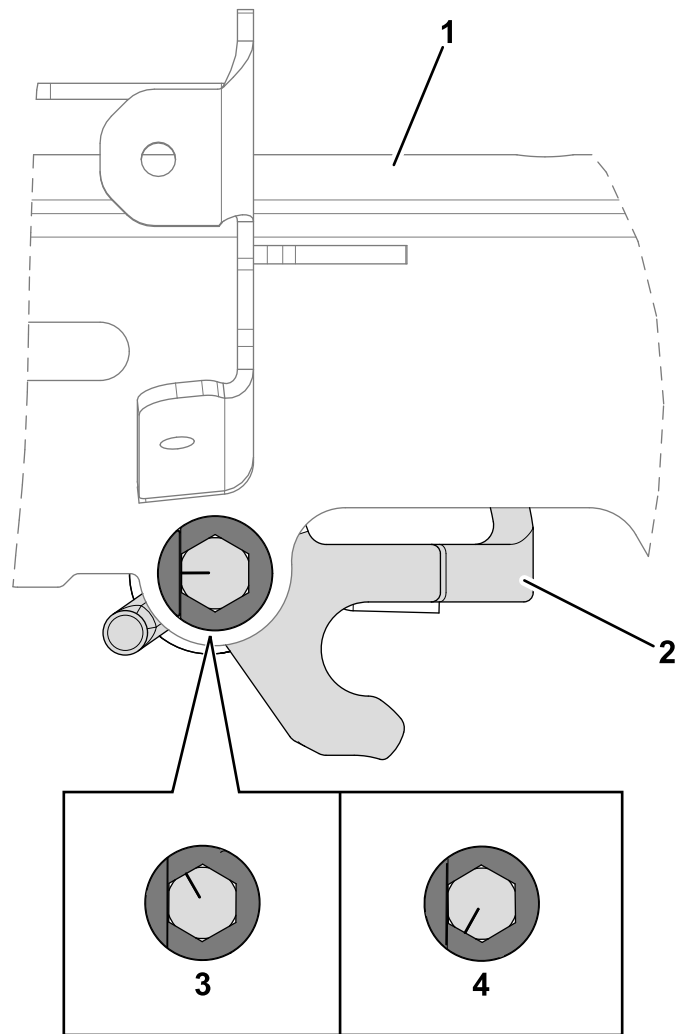

Figure 14
2. Rotate the bolt clockwise or counter-clockwise to adjust the angle of the handle-height adjuster in or out. The handle-height adjuster should be parallel to the upper receiver weldment as shown in Figure 14.